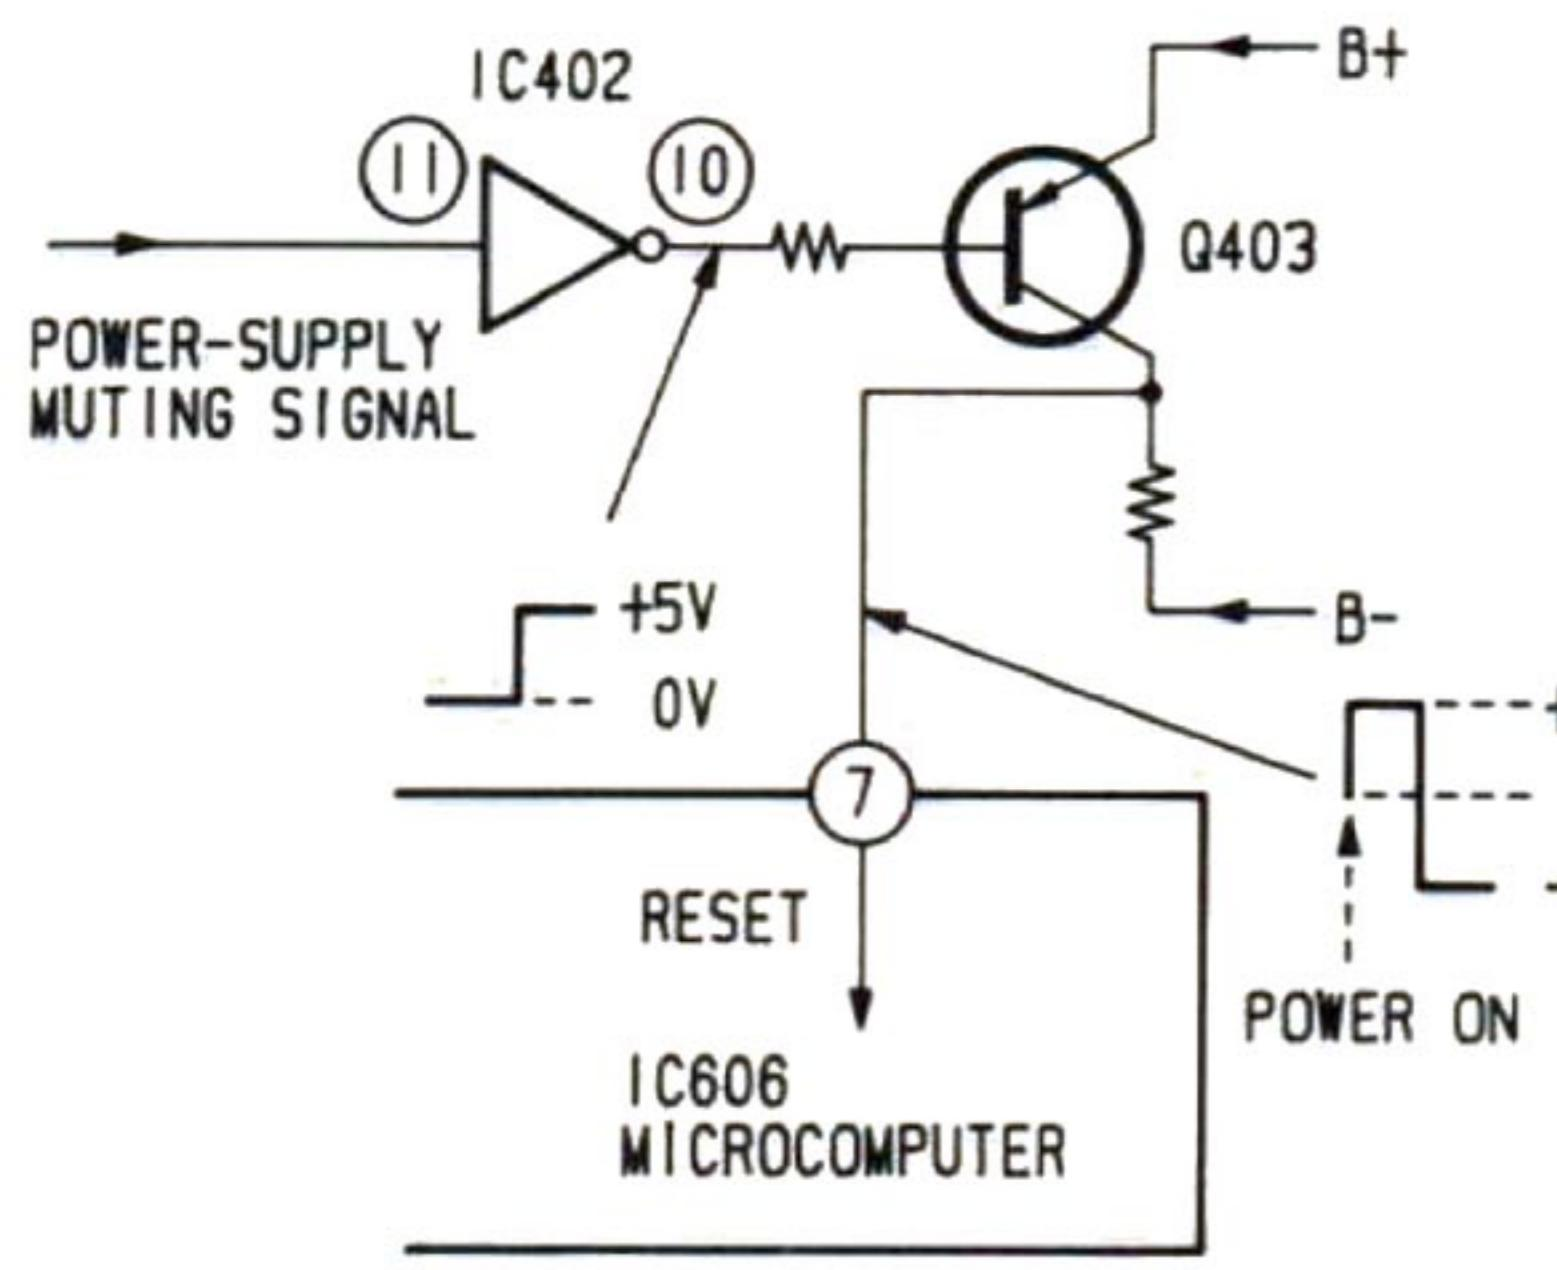

Fig. 10
2) Reset Signal (Refer to Fig. 10):